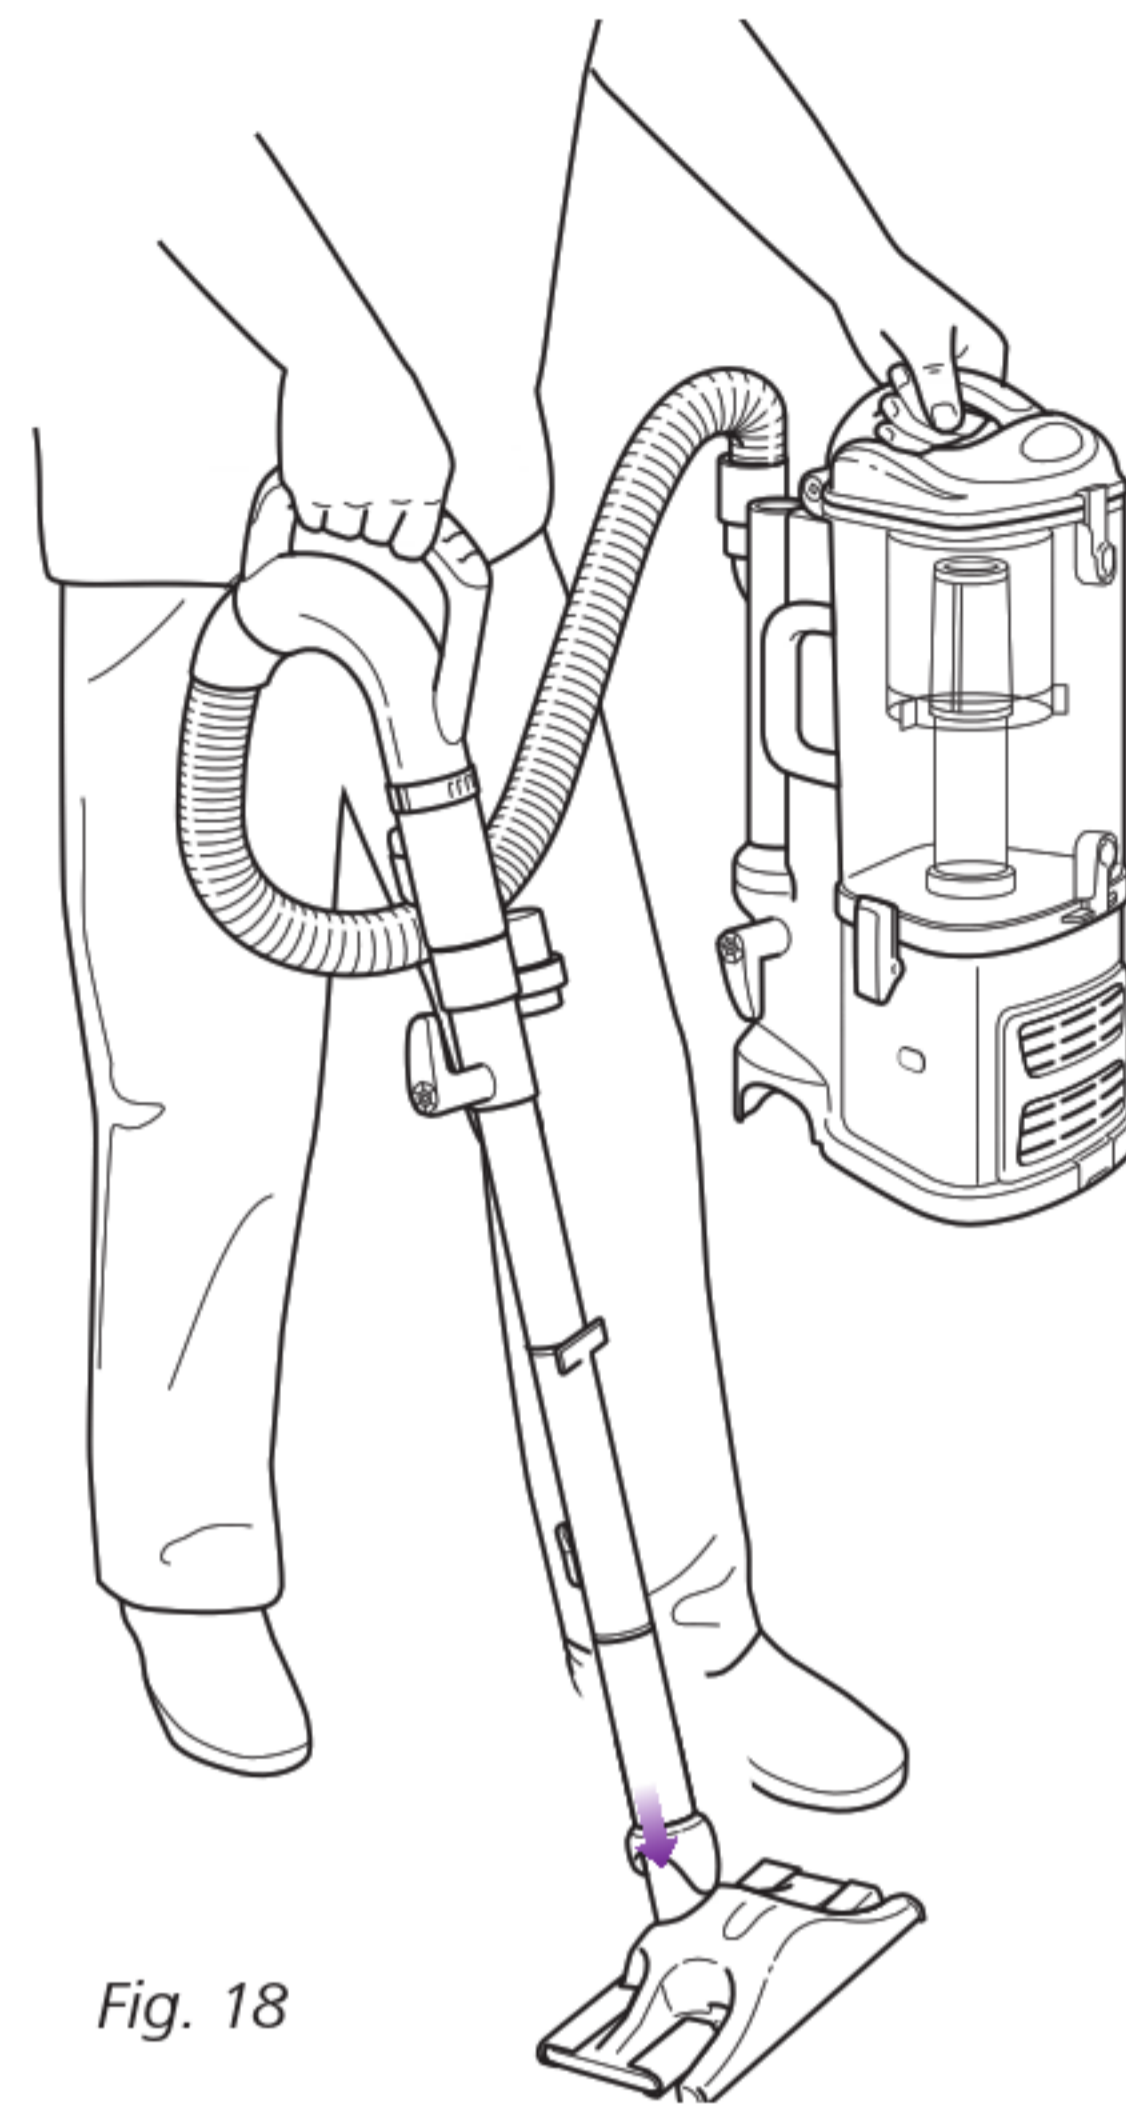

Fig. 18
- 2 Attach *Dust-Away™* hard floor attachment onto the end of the extension wand. (Fig. 18)